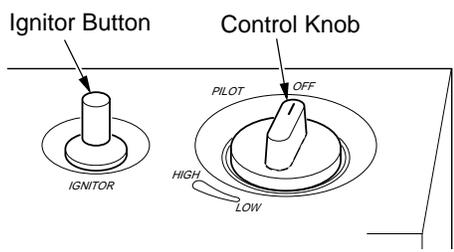

Figure 17 - Control Knob In The OFF Position
4. Wait five (5) minutes to clear out any gas. Then smell for gas, including near the floor. If you smell gas, **STOP!** Follow "B" in the safety information, above. If you don't smell gas, go to the next step.
5. Press in control knob and turn counterclockwise ↶ to the PILOT position. Keep control knob pressed in for five (5) seconds (see Figure 17).